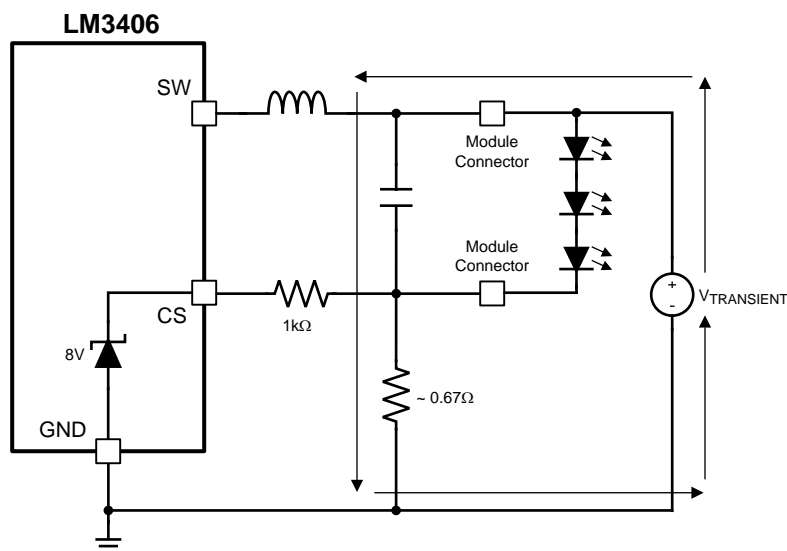

Figure 19. CS Pin, Transient Path with Protection
From measurements, we know that the 8V ESD structure on the CS pin can typically withstand 25mA of direct current (DC). Adding a 1k Ω resistor in series with the CS pin, shown in Figure 19, results in the majority of the transient energy to pass through the discrete sense resistor rather than the device. The series resistor limits the peak current that can flow during a transient event, thus protecting the CS pin. With the 1k Ω resistor shown, a 33V, 49A transient on the LED return connector terminal could be absorbed as calculated by: